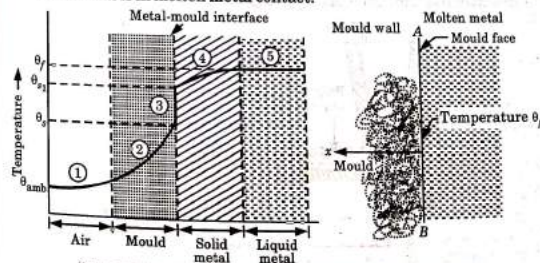

Fig. 1.6.1. Solidification of casting in insulating mould.
- Fig. 1.6.1 shows the heat dissipation rates in different regions when mould wall is in molten metal contact.